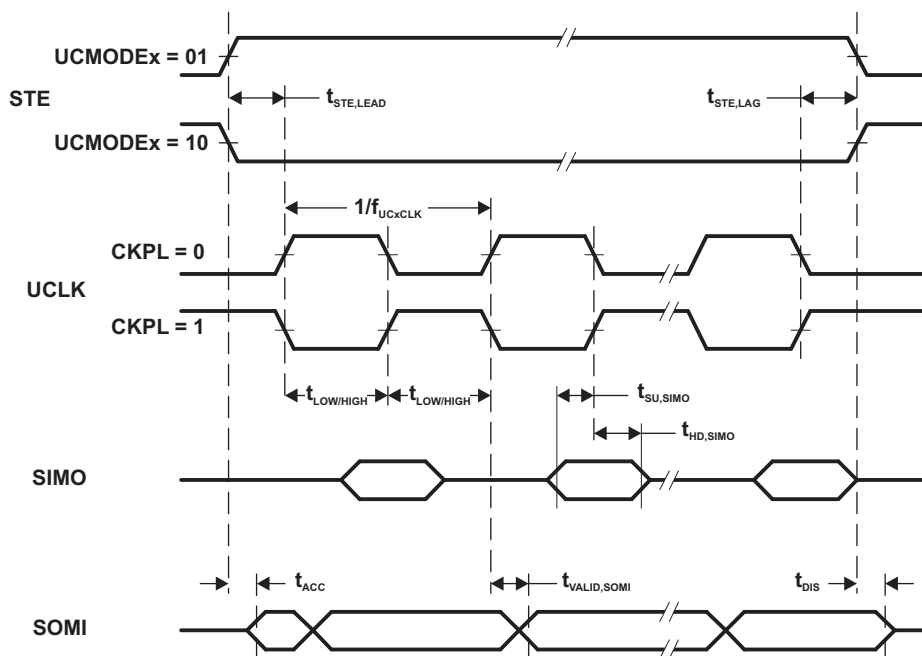
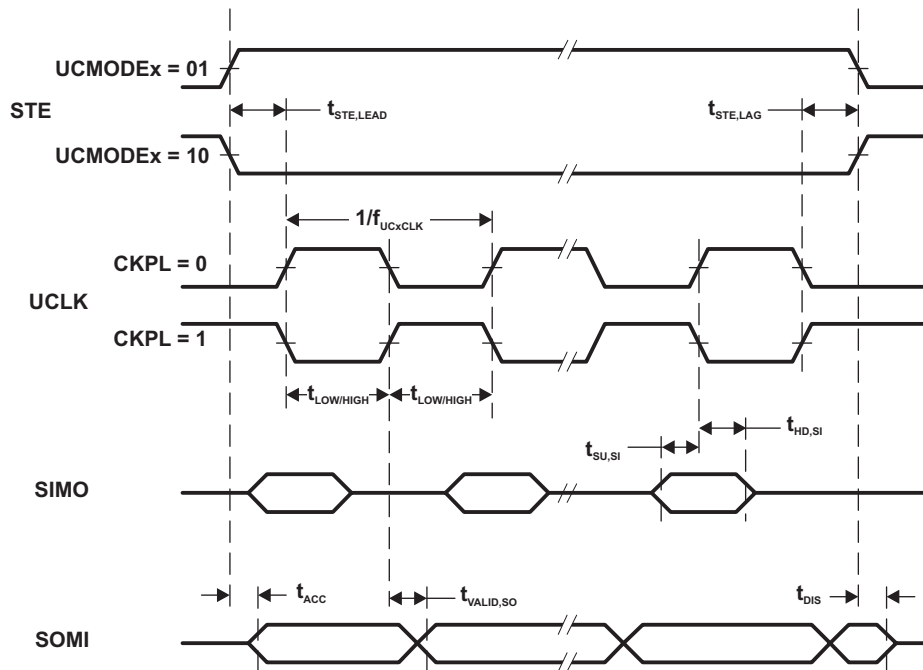

Figure 15. SPI Slave Mode, CKPH = 0
Figure 16. SPI Slave Mode, CKPH = 1
(2) Specifies the time to drive the next valid data to the SIMO output after the output changing UCLK clock edge. See the timing diagrams in Figure 15 and Figure 16.
(3) Specifies how long data on the SIMO output is valid after the output changing UCLK clock edge. Negative values indicate that the data on the SIMO output can become invalid before the output changing clock edge observed on UCLK. See the timing diagrams in Figure 15 and Figure 16.
- (2) Specifies the time to drive the next valid data to the SOMI output after the output changing UCLK clock edge. Refer to the timing diagrams in Figure 15 and Figure 16.
- (3) Specifies how long data on the SOMI output is valid after the output changing UCLK clock edge. Refer to the timing diagrams in Figure 15 and Figure 16.